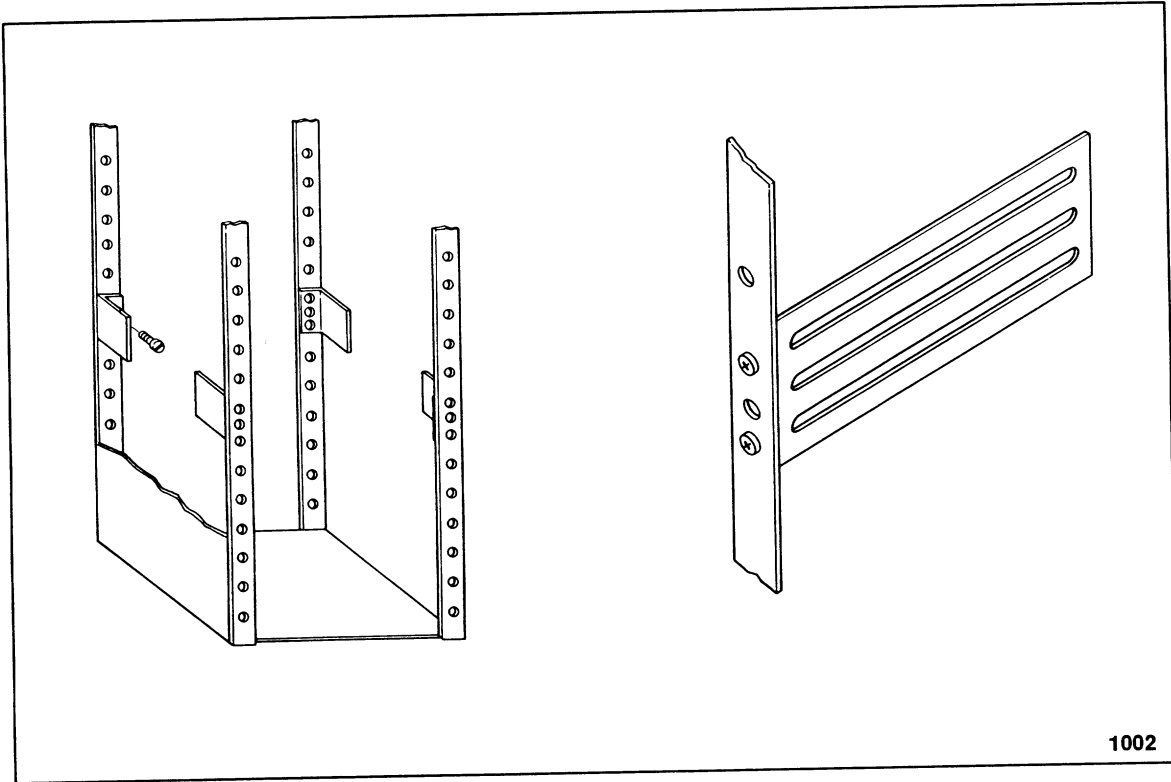

Figure 2-2 *Support Bracket Installation*
1. Install the four support brackets on the front and rear RETMA rails as shown in figure 2-2 (Sun rack). Locate the brackets so that their upper edges are raised 24 1/2" from the bottom of the RETMA rails. Install screws from inside the RETMA rail and torque to 20 inch-pounds.